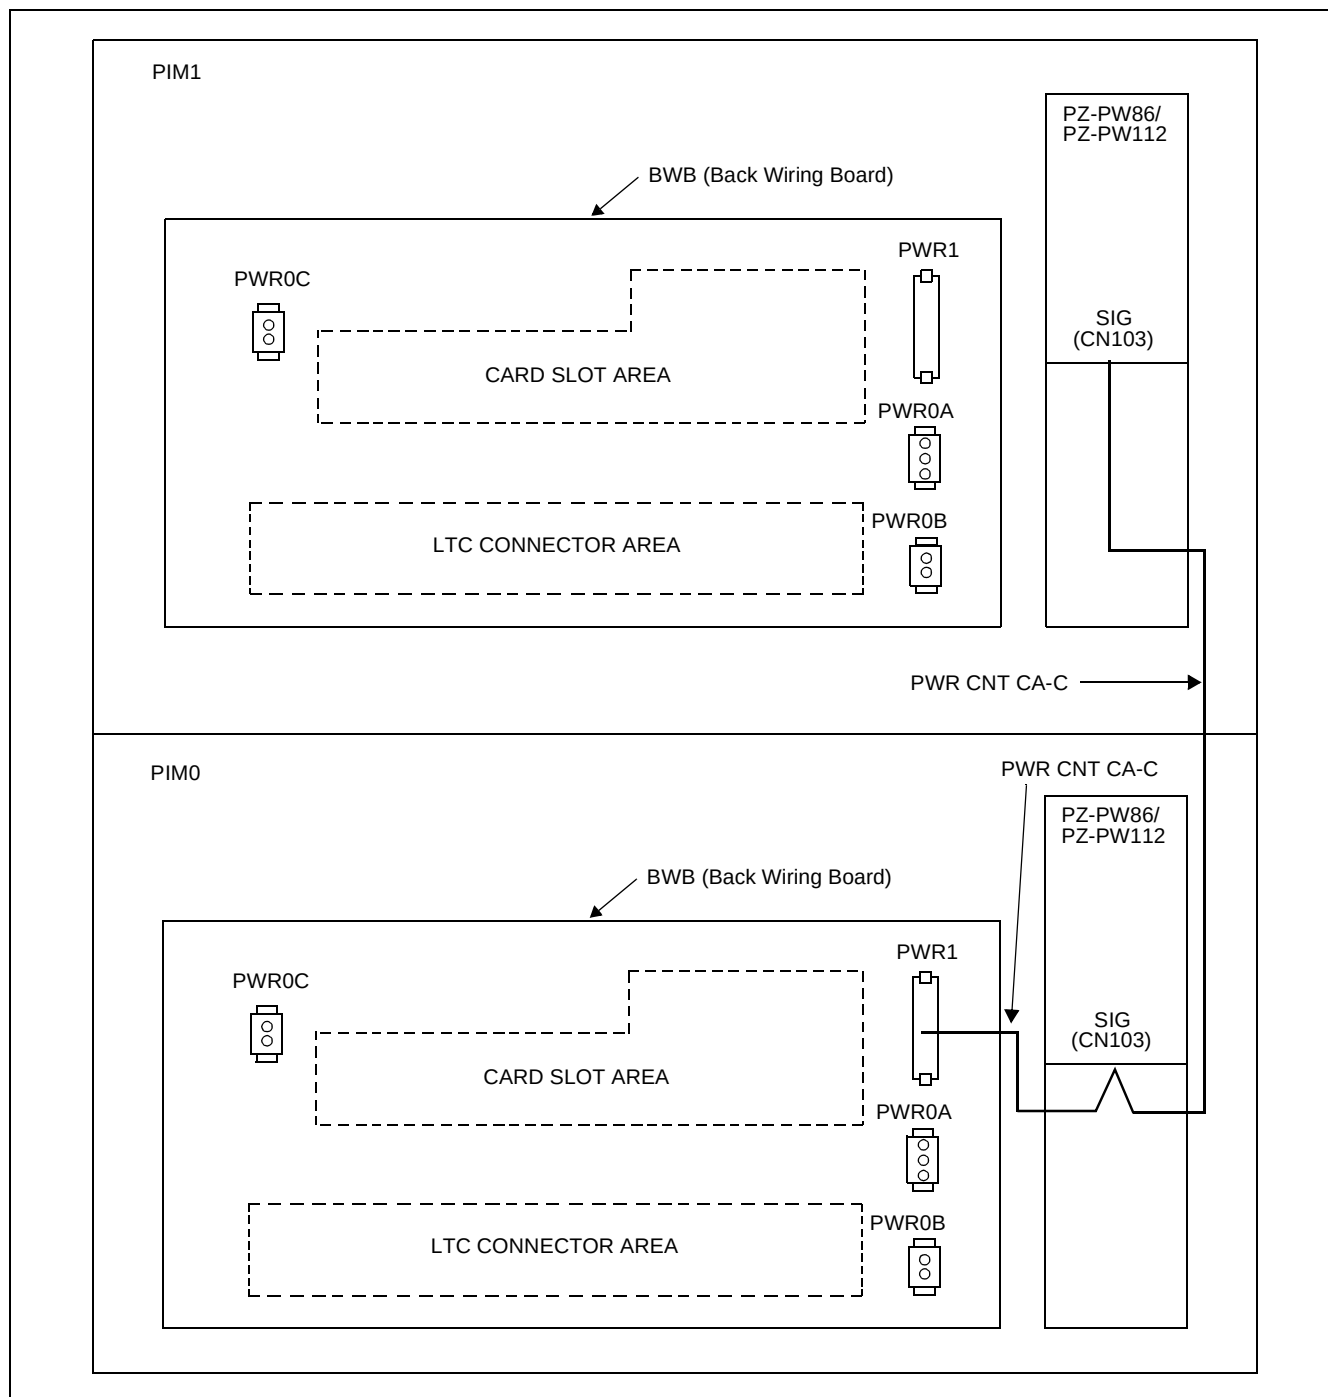

Figure 003-8 PWR CNT CA-C Cable Connection between PIMs
- (2) When the system is two PIM configuration, unplug the PWR CNT CA-A and connect the PWR CNT CA-C as shown in Figure 003-8.